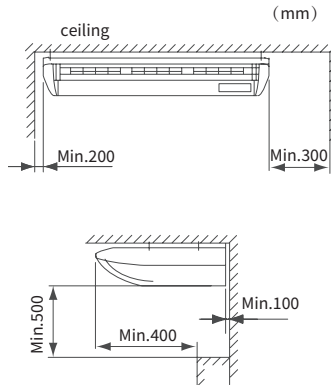

Fig.4.1 Operation and Maintenance Space
- Install the indoor unit with a proper clearance around it for operation and maintenance working space, as shown in Fig.4.1.